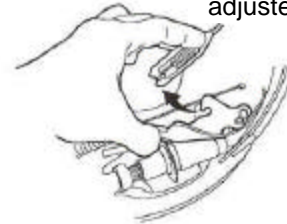

Figure 4
- 5) Detach the adjuster cable spring from the adjuster lever. See Figure 4.